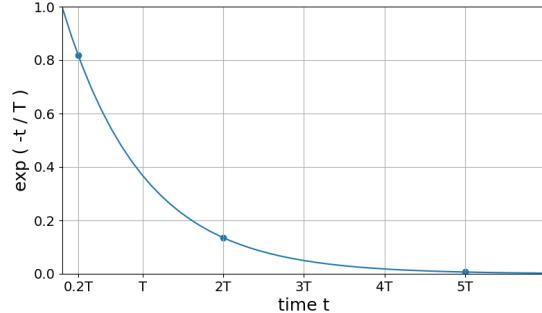

Figure 16: Exponential decay with a generic time constant T . This plot can be a helpful reference for designing relaxometry experiments.
In order to measure T_1 or T_2 you will tune the timing parameters of a spin echo sequence to elicit sensitivity to just one of these time constants at a time. For the sake of both accuracy and efficiency, it will be important to **design your sampling range to cover the most significant portion of the decay/recovery curve** for the time constant you are measuring. To this end you may find Figure 16 to be a helpful reference for choosing parameters in proportion to the (expected) time constant value. For example, we can see that the majority of decay/recovery happens during the time window between 20% and 200% of the time constant T . By time $5T$, decay is practically complete.
6. Tune your timing parameters as needed to achieve a good fit ($|r| \geq 0.97$). Hint: Figure 16 can help you pick suitable values for TE and TR.